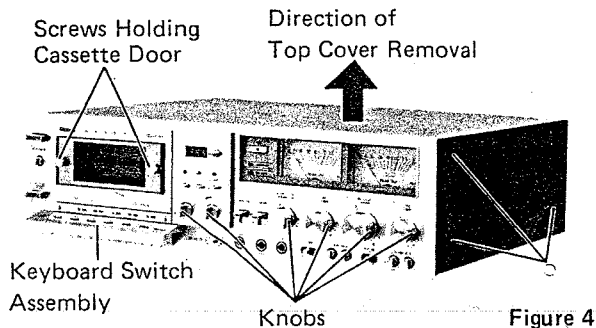

Figure 4
- (2) Lift up the top cover in the direction of the arrow as shown in Figure 4.
- (1) After removing the top cover, pull out the keyboard switch assembly and eight knobs as shown in Figure 4.
- (2) Remove two screws holding the cassette door and door frame as shown in Figure 4, and then remove them.